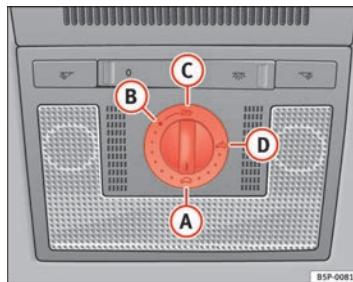

Fig. 70 Roof lining description: rotary sun roof control / deflector ▶
- Turn the rotary button to position **A** ⇒ fig. 70 ⇒ .